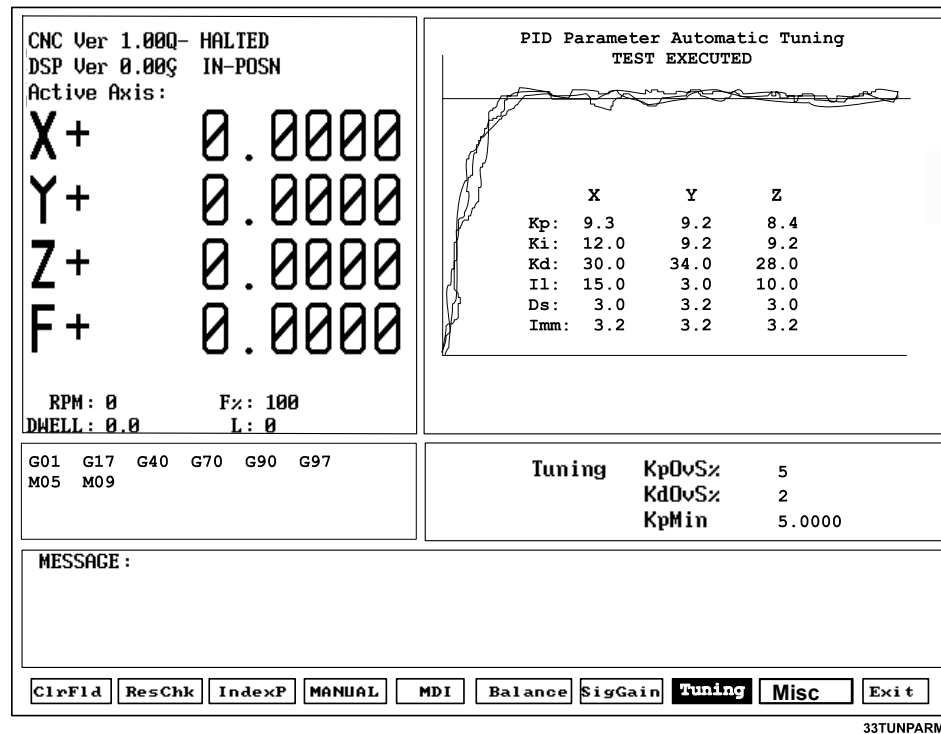

Figure 10, Tuning Parameters Test Results Screen
The Tuning function can determine optimum values within constraints you specify. The default values are usually correct for most machines. To fine-tune, enter values manually or use this test. Refer to Figure 10, Tuning Parameters Test Results Screen.
6. Refer to Figure 10, Tuning Parameters Test Results Screen. After the test, the CNC plots the final step response for all axes tested, and displays them in the graphics area of the screen.
1. Refer to **Figure 10**. After the Tuning Test, the results are displayed in the Graphics Area of the screen. Press **TUNING (F8)** and highlight **Save Results**.